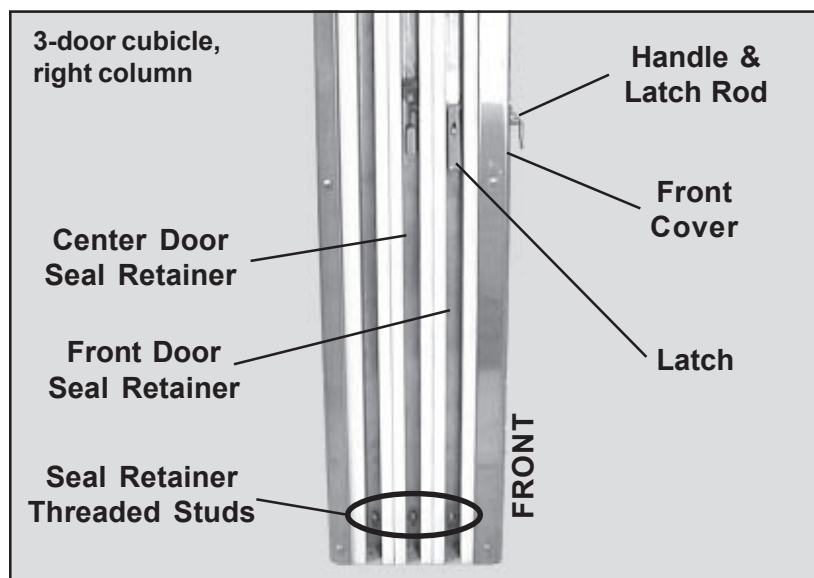

Figure 51. Adjusting the Latch Mechanism
4. Slightly raise or lower the handle and latch rod (Figure 51) as necessary and retighten the front cover screws.
6. Depress and release the latch to make sure it operates smoothly. If it binds, raise or lower the front door seal retainer until the latch is clear, then tighten the nut on the lower threaded stud (Figure 51).